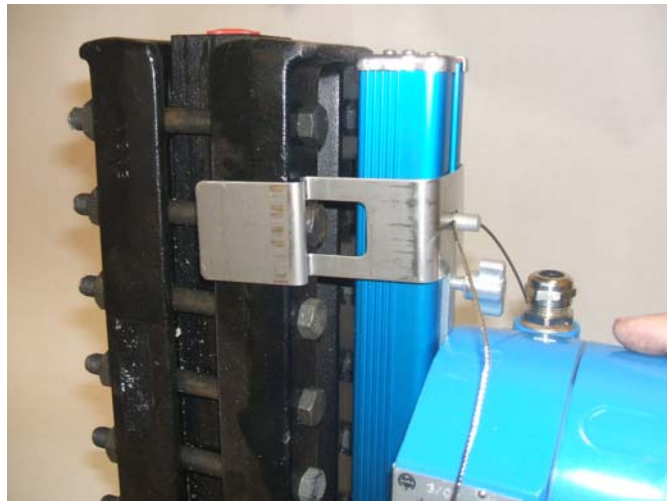

Figure 7
Step 5: After the lower bracket has been tightened, go back to the top bracket and loosen the thumb nut enough to allow the cable to slide through freely. Pull cable as tight as possible, and fully tighten thumb nut as shown in Figure 7.